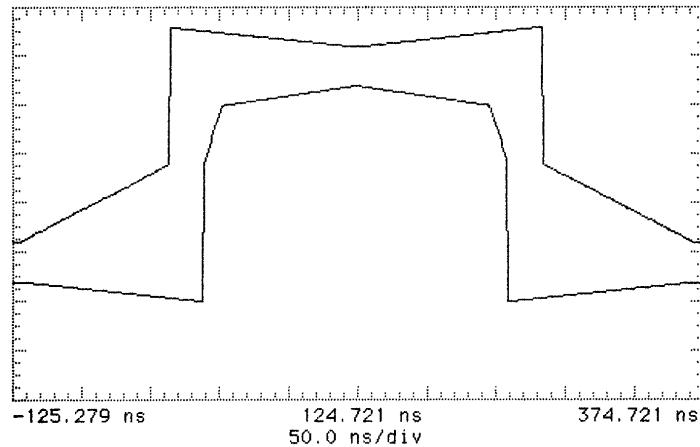

Figure 3-16
23. Press **SHIFT** **AUTOSCALE** on the oscilloscope to automatically align the pulse to the mask. Verify that the pulse falls within the mask as shown in Figure 3-16.
If your oscilloscope does not have the Mask feature, obtain a printout of the displayed pulse. Place the mask shown in Figure 3-16 over the pulse and ensure that the pulse falls within the mask (a transparent copy of the mask should be used).
27. Adjust the oscilloscope timebase, delay and vertical sensitivity controls to verify that the pulse meets the mask as shown in Figure 3-16. Use the displayed settings as a guide.